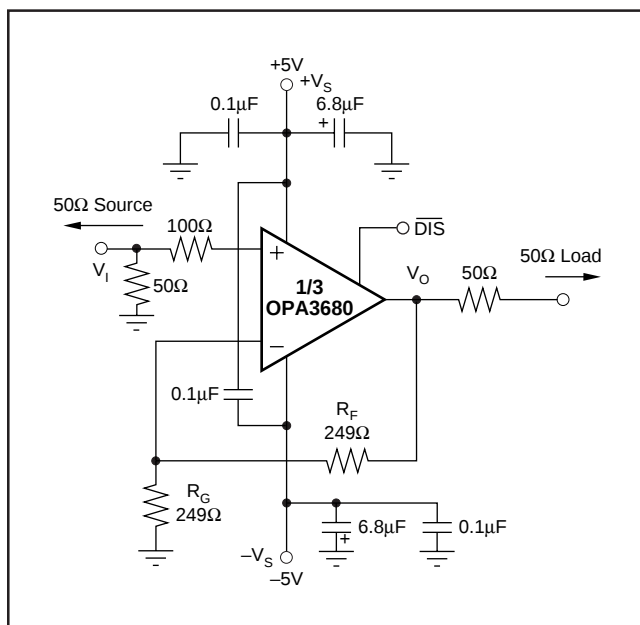
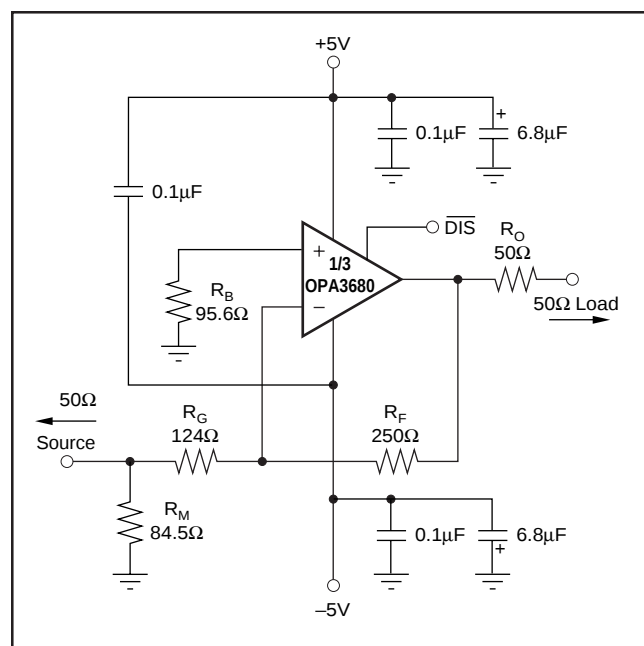

FIGURE 1. DC-Coupled, $G = +2$, Bipolar Supply, Specification and Test Circuit.
FIGURE 9. Gain of -2 Example Circuit.
At $T_A = +25^\circ\text{C}$, $G = +2$, $R_F = 250\Omega$, and $R_L = 100\Omega$, unless otherwise noted. See Figure 1.
At $T_A = +25^{\circ}C$, $G = +2$, $R_F = 250\Omega$, and $R_L = 100\Omega$, unless otherwise noted. See Figure 1.
At $T_A = +25^\circ C$, $G = +2$, $R_F = 250\Omega$, and $R_L = 100\Omega$, unless otherwise noted. See Figure 1.
Figure 1 shows the DC-coupled, gain of +2, dual power supply circuit configuration used as the basis of the $\pm 5\text{V}$ Specifications and Typical Performance Curves. For test purposes, the input impedance is set to 50Ω with a resistor to ground and the output impedance is set to 50Ω with a series output resistor. Voltage swings reported in the specifications are taken directly at the input and output pins, while output powers (dBm) are at the matched 50Ω load. For the circuit of Figure 1, the total effective load will be $100\Omega \parallel 498\Omega$. The disable control line is typically left open to guarantee normal amplifier operation. Two optional components are included in Figure 1. An additional resistor (100Ω) is included in series with the non-inverting input. Combined with the 25Ω DC source resistance looking back towards the signal generator, this gives an input bias current cancelling resistance that
A good rule of thumb is to target the parallel combination of R_F and R_G (Figure 1) to be less than approximately 125Ω . The combined impedance $R_F \parallel R_G$ interacts with the inverting input capacitance, placing an additional pole in the feedback network and thus, a zero in the forward response. Assuming a $3pF$ total parasitic on the inverting node, holding $R_F \parallel R_G < 125\Omega$ will keep this pole above $400MHz$. By itself, this constraint implies that the feedback resistor R_F can increase to several $k\Omega$ at high gains. This is acceptable as long as the pole formed by R_F and any parasitic capacitance appearing in parallel with it is kept out of the frequency range of interest.
Voltage-feedback op amps exhibit decreasing closed-loop bandwidth as the signal gain is increased. In theory, this relationship is described by the Gain Bandwidth Product (GBP) shown in the specifications. Ideally, dividing GBP by the non-inverting signal gain (also called the Noise Gain, or NG) will predict the closed-loop bandwidth. In practice, this only holds true when the phase margin approaches 90° , as it does in high gain configurations. At low gains (increased feedback factors), most amplifiers will exhibit a more complex response with lower phase margin. The OPA3680 is compensated to give a slightly peaked response in a non-inverting gain of 2 (Figure 1). This results in a typical gain of +2 bandwidth of $220MHz$, far exceeding that predicted by dividing the $300MHz$ GBP by 2. Increasing the gain will cause the phase margin to approach 90° and the bandwidth to more closely approach the predicted value of (GBP/NG) . At a gain of +10, the $30MHz$ bandwidth shown in the Typical Specifications agrees with that predicted using the simple formula and the typical GBP of $300MHz$.
Frequency response in a gain of +2 may be modified to achieve exceptional flatness simply by increasing the noise gain to 2.5. One way to do this, without affecting the +2 signal gain, is to add a 453Ω resistor across the two inputs in the circuit of Figure 1. A similar technique may be used to reduce peaking in unity gain (voltage follower) applica-
Since the OPA3680 is a general purpose, wideband voltage feedback op amp, all of the familiar op amp application circuits are available to the designer. Inverting operation is one of the more common requirements and offers several performance benefits. Figure 9 shows a typical inverting configuration where the I/O impedances and signal gain from Figure 1 are retained in an inverting circuit configuration.
advantage that the noise gain becomes equal to 2 for a 50Ω source impedance—the same as the non-inverting circuits considered above. However, the amplifier output will now see the 100Ω feedback resistor in parallel with the external load. In general, the feedback resistor should be limited to the 100Ω to $1.5k\Omega$ range. In this case, it is preferable to increase both the R_F and R_G values as shown in Figure 9 and then achieve the input matching impedance with a third resistor (R_M) to ground. The total input impedance becomes the parallel combination of R_G and R_M .
The second major consideration, touched on in the previous paragraph, is that the signal source impedance becomes part of the noise gain equation and hence influences the bandwidth. For the example in Figure 9, the R_M value combines in parallel with the external 50Ω source impedance, yielding an effective driving impedance of $50\Omega \parallel 84.5\Omega = 31.4\Omega$. This impedance is added in series with R_G for calculating the noise gain (NG). The resultant NG is 2.6 for Figure 9, as opposed to only 2 if R_M could be eliminated as discussed above. The bandwidth will therefore be slightly lower for the gain of -2 circuit of Figure 9 than for the gain of $+2$ circuit of Figure 1.
The third important consideration in inverting amplifier design is setting the bias current cancellation resistor on the non-inverting input (R_B). If this resistor is set equal to the total DC resistance looking out of the inverting node, the output DC error, due to the input bias currents, will be reduced to (Input Offset Current) $\cdot R_F$. If the 50Ω source impedance is DC-coupled in Figure 9, the total resistance to ground on the inverting input will be 155Ω . Combining this in parallel with the feedback resistor gives the $R_B = 95.6\Omega$ used in this example. To reduce the additional high frequency noise introduced by this resistor, it is sometimes bypassed with a capacitor. As long as $R_B < 350\Omega$, the capacitor is not required since the total noise contribution of all other terms will be less than that of the op amp's input noise voltage. As a minimum, the OPA3680 requires an R_B value of 50Ω to damp out parasitic-induced peaking—a direct short to ground on the non-inverting input runs the risk of a very high frequency instability in the input stage.
The distortion plots show which changes in operation will improve distortion. Increasing the load impedance improves distortion directly. Remember that the total load includes the feedback network; in the non-inverting configuration (Figure 1) this is sum of $R_F + R_G$, while in the inverting configuration (Figure 9), it is just R_F . Also, providing an additional supply decoupling capacitor (0.1μF) between the supply pins (for bipolar operation) improves the 2nd-order distortion slightly (3dB to 6dB).
Evaluating these two equations for the OPA3680 circuit and component values shown in Figure 1 will give a total output spot noise voltage of $11\text{nV}/\sqrt{\text{Hz}}$ and a total equivalent input spot noise voltage of $5.5\text{nV}/\sqrt{\text{Hz}}$. This is including the noise added by the bias current cancellation resistor (100Ω) on the non-inverting input. This total input-referred spot noise voltage is only slightly higher than the $4.8\text{nV}/\sqrt{\text{Hz}}$ specification for the op amp voltage noise alone. This will be the case as long as the impedances appearing at each op amp input are limited to the previously recommend maximum value of 125Ω . Keeping both $(R_F \parallel R_G)$ and the non-inverting input source impedance less than 125Ω will satisfy both noise and frequency response flatness considerations. Since the resistor-induced noise is relatively negligible, additional capacitive decoupling across the bias current cancellation resistor (R_B) for the inverting op amp configuration of Figure 9 is not required.
The balanced input stage of a wideband voltage feedback op amp allows good output DC accuracy in a wide variety of applications. The power supply current trim for the OPA3680 gives even tighter control than comparable products. Although the high speed input stage does require relatively high input bias current (typically $14\mu\text{A}$ out of each input terminal), the close matching between them may be used to reduce the output DC error caused by this current. The total output offset voltage may be considerably reduced by matching the DC source resistances appearing at the two inputs. This reduces the output DC error due to the input bias currents to the offset current times the feedback resistor. Evaluating the configuration of Figure 1, using worst-case $+25^\circ\text{C}$ input offset voltage and current specifications, gives